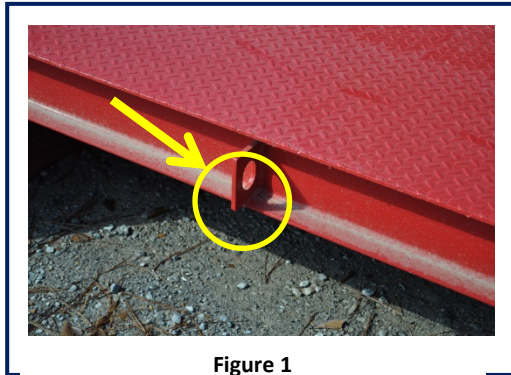

Figure 1
3. To attach approaches, rig lifting equipment to the provided lifting points and lift the approach and set the approach pins into the scale's pedestal bulkhead saddle first. See Figure 1.